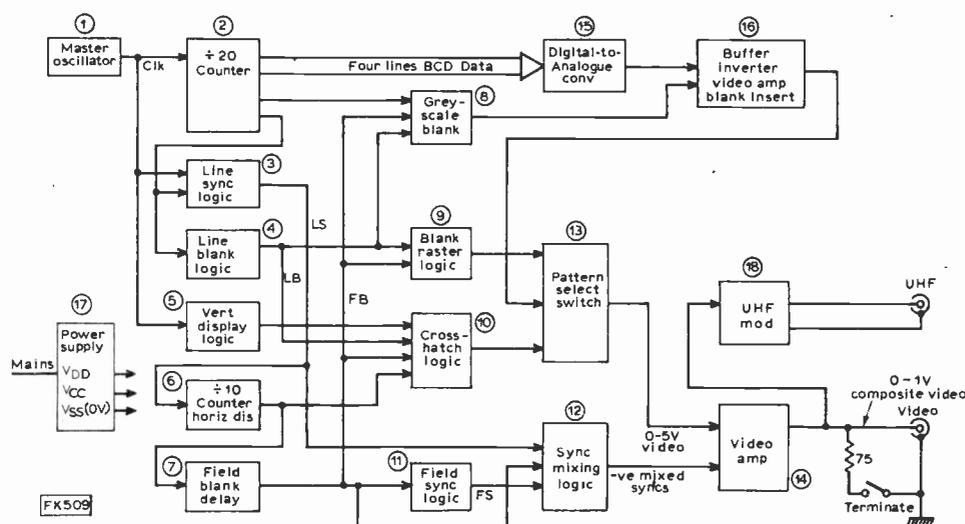

Fig. 1: Block diagram of the complete pattern generator.
An i.c. master oscillator (see Fig. 1) is used, with a trimmer to set the frequency. One bonus of this arrangement is that the behaviour of the monitor's or receiver's timebases can be observed under different pulse rates. This was not the prime consideration of course. The oscillator provides a  $1.6\mu\text{s}$  pulse every  $3.2\mu\text{s}$  and is set to give a line period of  $64\mu\text{s}$ .
The block diagram (Fig. 1) shows the functions carried out in the unit. This is a simplified diagram and it should be noted that some of the i.c.s are used to perform more than one group of functions. The master oscillator (1) provides our  $1.6\mu\text{s}$  clock pulses. The divide by twenty counter (2) provides data for the grey-scale pattern. The line sync logic (3) is used to provide a  $4.8\mu\text{s}$  pulse every  $64\mu\text{s}$  while the line blanking logic (4) provides a  $12.8\mu\text{s}$  blanking pulse. The vertical display logic (5) uses a CR network to produce a bright-up pulse from negative-going clock pulse
In the following circuit description reference should be made to both the block diagram (Fig. 1) and the complete circuit (Fig. 2).